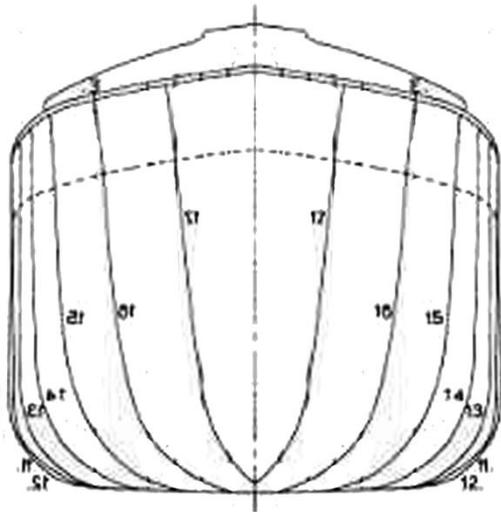

Figure 5. Full-width template of the bow portion.
2. One way to do this is to take a scan of the body plan, and digitally separate the bow and stern sides. Flip a copy of what's left so that you make a mirror image, which you combine with the original to make the full-width template, as shown in Figure 5 for the bow portion of the plan. Suitable software is Photoshop Elements, or OpenOffice Draw (which is free).